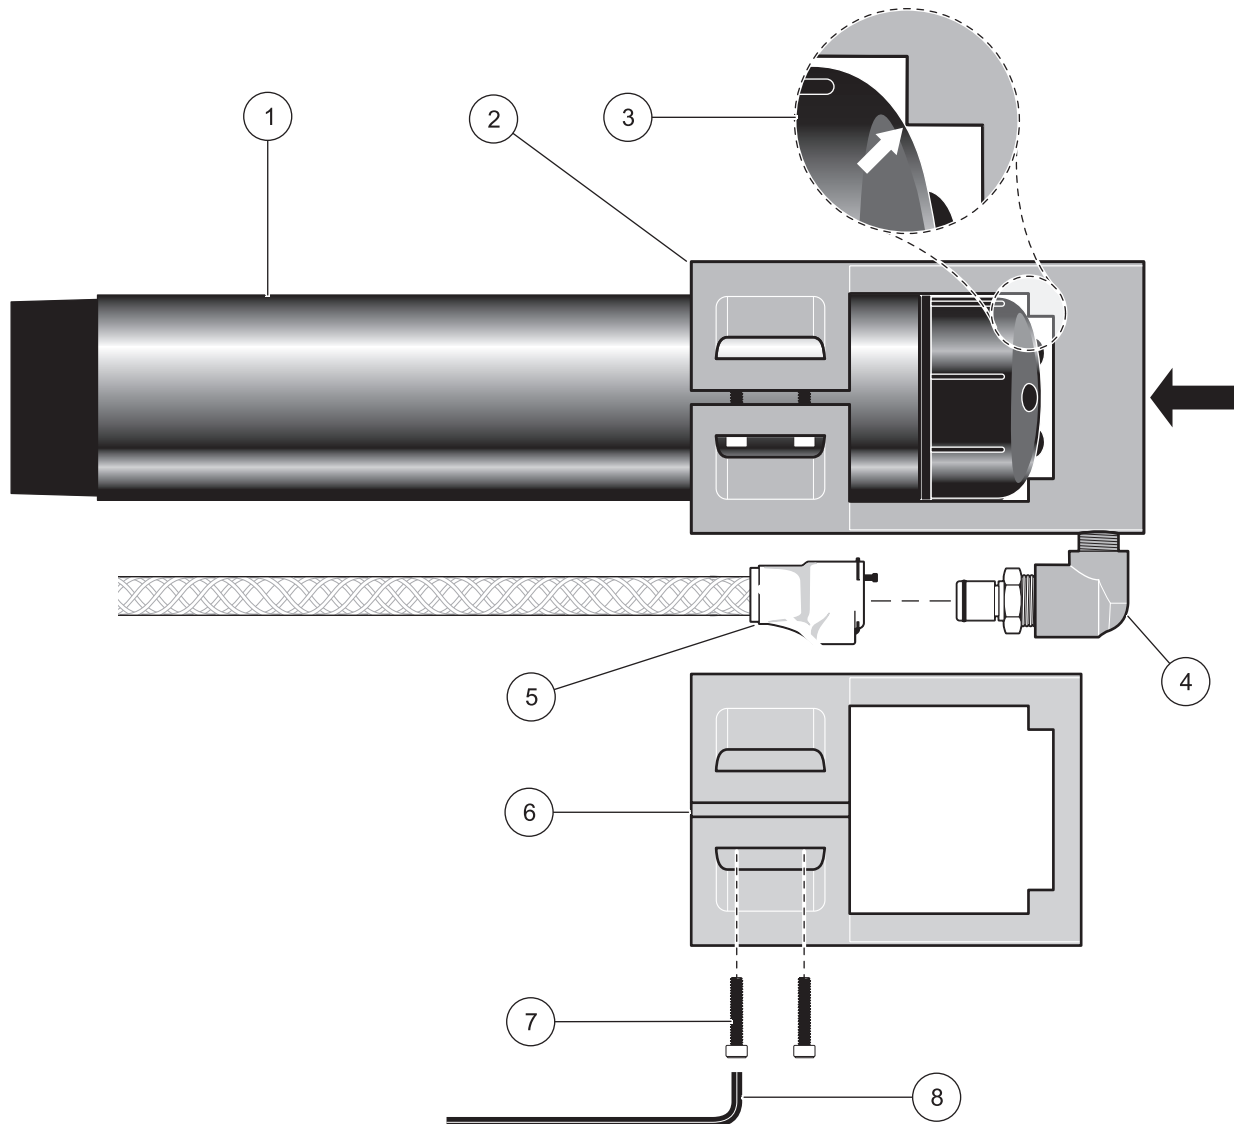

Figure 1 Air blast head and sensor guard head components
2. Push the head onto the sensor body (Figure 1, item 3).